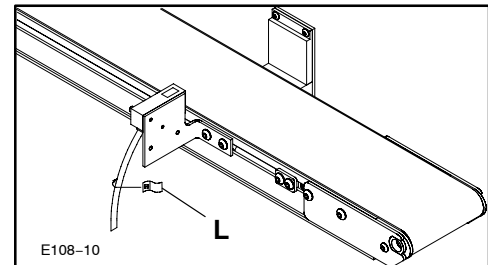

Figure 10: Cable Labeling (Detail provided only on Photo-Eye End of Cable)
6. Label both ends of the Photo-Eye Cable using blank Labels (L) provided (Figure 10), using a permanent marking pen.